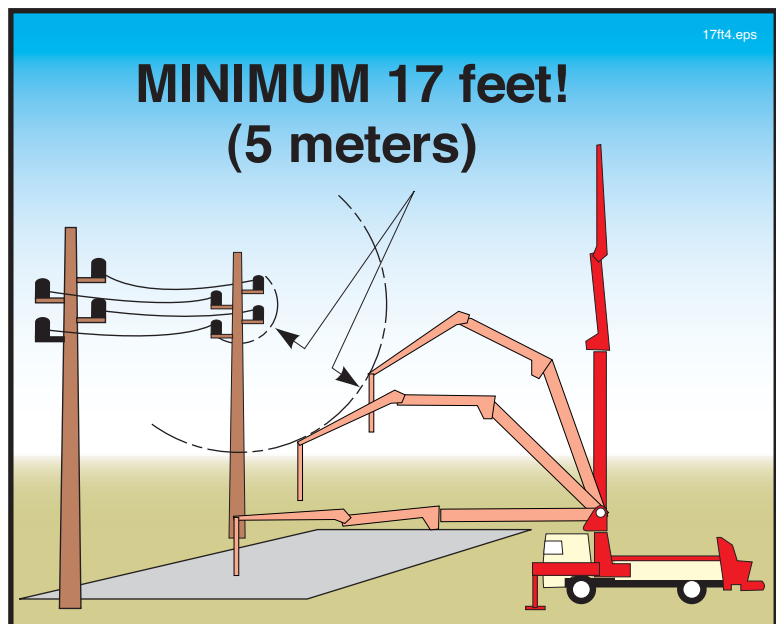

Figure 13
- 6.5 **⚠ DANGER** You **MUST** avoid hazardous proximity or contact with electric lines at all times! Position the machine so a minimum safety distance of **17 feet (5 meters)** is maintained in all boom positions needed to do the job (Figure 13). **Never decrease the safety distance to reach an unsafe area with the boom.**